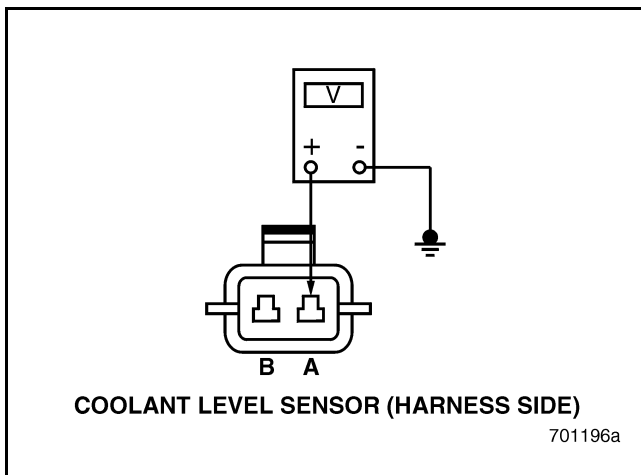

Figure 108
5. Measure the voltage between pin A on the harness side of the connector and a good ground (see Figure 108).